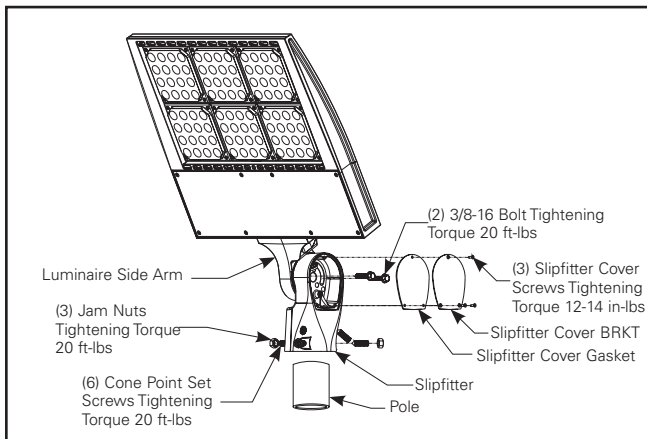

Figure 7.
1. Loosen (3) #8 screws to remove the access cover from the slipfitter arm. Set aside for installation.
3. Pull the supply wire leads through the top of pole or tenon topper. Support fixture and lower onto pole while feeding supply wires through the slot in the slipfitter (Figure 7).
4. Once fixture is oriented properly, hand tighten the 3 angled set screws to secure fixture in place. Hand tighten the lower (3) set screws and then Torque the upper angled set screws to 20 ft-lbs. Install (3) hex nuts to the lower set screws and torque both the (3) set screws and (3) nuts to 20 ft-lbs.
5. If needed to aid fixture direction and orientation, the (4) cap screws holding the fixture to the arms can be backed out and fixture facing orientation reversed. Ensure the (4) cap screws are replaced and tightened to 20 ft lb for 1 light square luminaires and 30 ft lb for 2-6 light square luminaires. This action if required must be performed prior to making wire connections.
7. Loosen the (2) 3/8-16 located in the slots to make angle adjustments to the fixture. After angle adjustments have been made, torque to 23 ft-lbs. The fixture can be adjusted from -10 degrees to 80 degrees from horizontal for pole mount configuration.